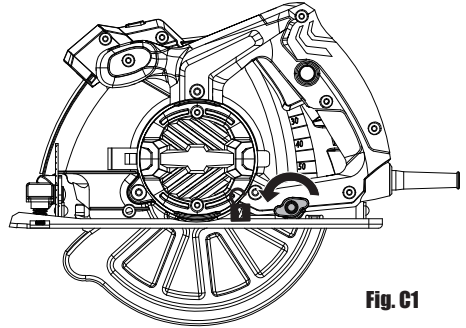

Fig. C1
1. ADJUSTING THE CUTTING DEPTH (SEE FIG. C1, C2)